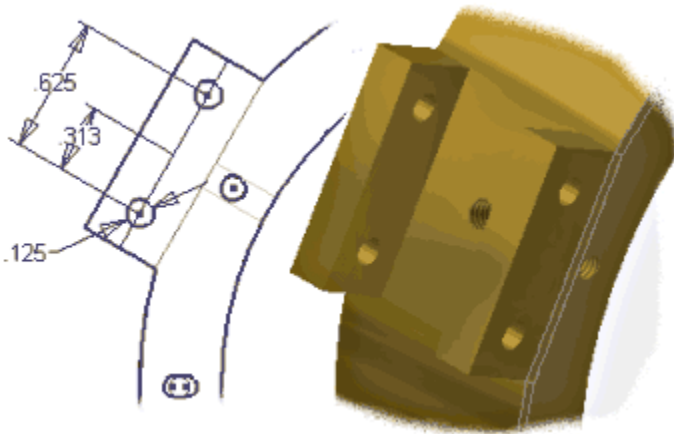

Figure 11: Sketch and cut extrusion result.
4. On the front face of the just completed extrusion, sketch two 0.125-inch diameter circles as shown in the left-side image in Figure 11. Extrude the circles with a Through All to create the feature shown in the right-side image in Figure 11.